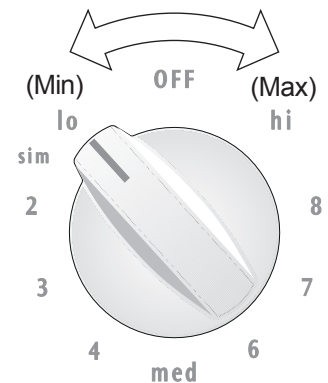

Fig. 1
2. Push in and turn the surface control knob **in either direction** (See Fig. 1) to the desired setting. Start most cooking operations on a higher setting and then turn to a lower setting to finish cooking. The control knobs do not have to be set exactly on a particular setting. Use the settings as a guide and adjust the control knob as needed.